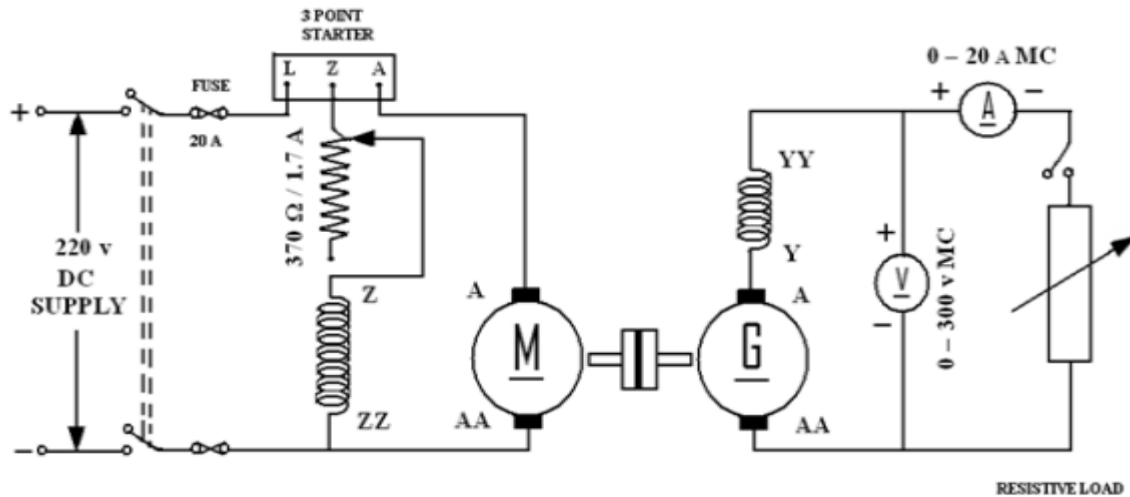

Figure 3 - LOAD TEST ON DC SERIES GENERATOR
1. Calculate the different armature currents (i.e I_a equal I_a plus I_f) for series generator under various Loads In figure 3